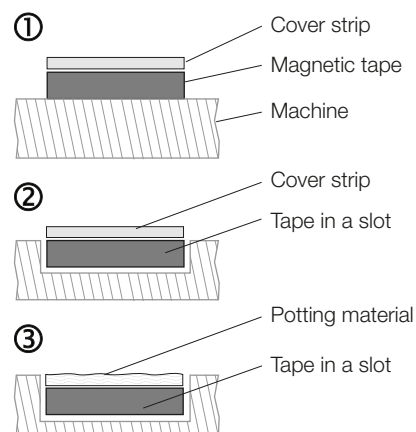

Fig. 4-3: Tape installation options
For normal ambient conditions glue the tape down to a level surface. Optionally the cover strip can be glued on for protection (see Fig. 4-3, Pos. 1).
For harsh ambient conditions embed the tape fully in a somewhat deeper channel so that it does not extend over the surface. Optionally the cover strip can be glued on for protection (see Fig. 4-3, Pos. 2).
For extreme ambient conditions embed the tape fully in a somewhat deeper channel and fill with non-magnetic material (e.g. Uhu Endfest 300). The potting material can be leveled by lightly sanding (see Fig. 4-3, Pos. 3).
- Installation options (see Fig. 4-3, Positions 1 and 2): bond to the surface, countersink in a slot, and bond cover.